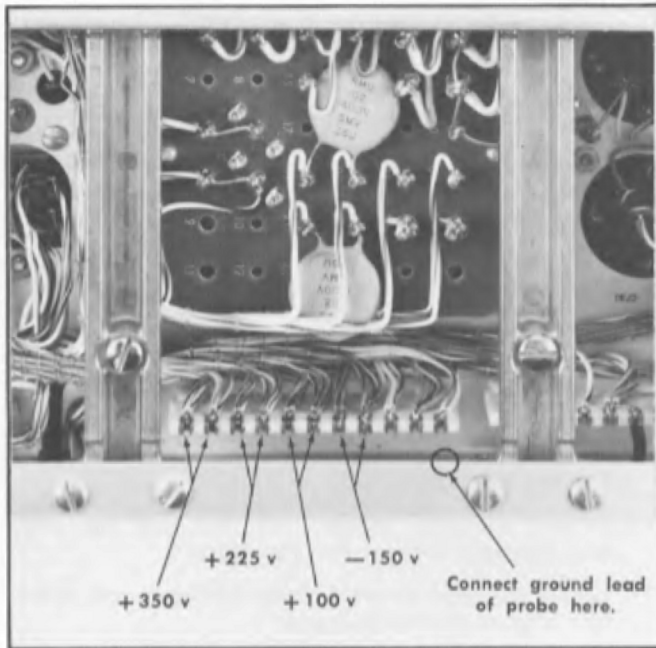

Fig. 5-1. Low-voltage power-supply test point locations (bottom of instrument near the power transformer).
5. Using the VOM, check the resistance at the regulated bus of each power-supply lead to ground at the test points shown in Fig. 5-1. The values of resistance should be approximately as indicated in Table 5-1, once the capacitors are charged by the VOM internal battery.
- c. Check the voltage accuracy of each power supply output using the VOM (item 4) according to the information given in Table 5-3. The location of the test points is shown in Fig. 5-1.
- a. Monitor the regulated output of the —150-volt supply with the VOM. The test point location is shown in Fig. 5-1.
- b. Connect a 1X probe from a test oscilloscope (item 1) to the —150-volt test point and check the output ripple amplitude. The maximum ripple voltage is given in Table 5-3.
Ground loops can cause an erroneous ripple measurement. (Ripple due to ground loops is the same frequency as the line; low-voltage power supply ripple is twice the line rate.) One way to avoid ripple due to ground loops is to temporarily disconnect the chassis ground wire in the power cord by using an ungrounded 3-to-2 wire line-plug adapter. Then use a ground lead from the signal probe to make a ground connection to the oscilloscope chassis at the location shown in Fig. 5-1. The probe will then provide the only ground connection between the two instruments. The "test oscilloscope" is item 1 while the term "oscilloscope" or "instrument" refers to the oscilloscope being calibrated.